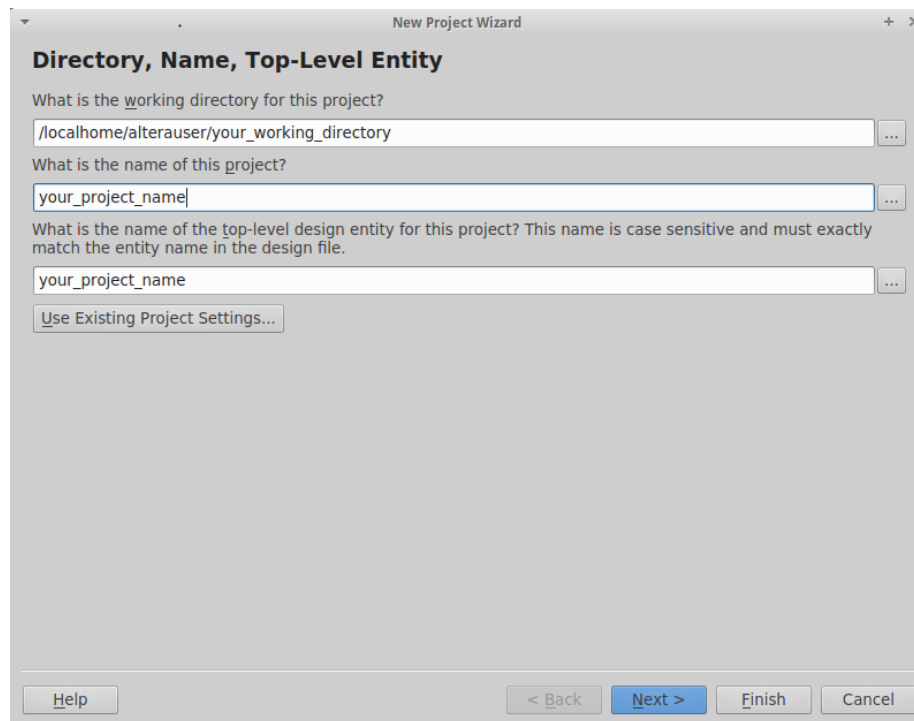

Figure 1: Create a new project
1. In the Quartus II software, select **File > New Project Wizard**. The new project wizard opens, here you have to mention the project directory, name of the project and your top level design entity. See figure 1